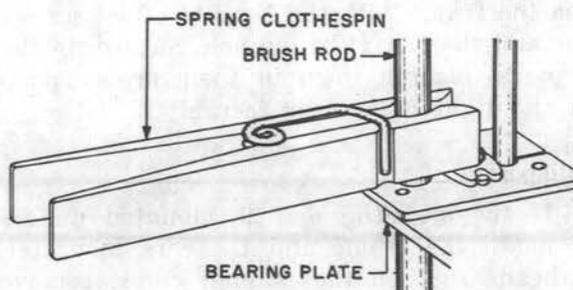

Fig. 13 — Method of Placing Spring Clothespin
3.31 Lift the brush rod away from the rack with the other hand. The rod now has no means of support so it will be necessary to hold it in place by clamping it with a spring clothespin just above a bearing plate, as shown in Fig. 13.